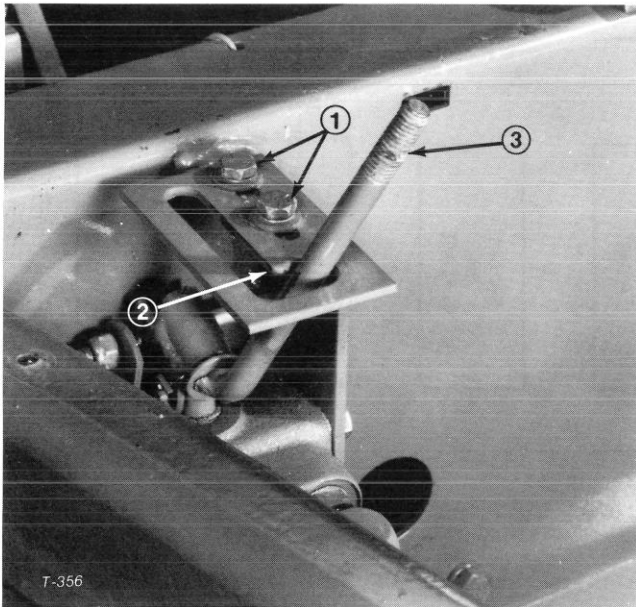

Figure 77
3. Loosen two capscrews on top of the lift lever latch (Fig. 77). Place lever on rounded tip of latch (Fig. 77), and slide latch w/lever forward until stopping resistance is felt. Then tighten capscrews to lock the latch in place. Check for free operation of the lift lever by moving lever from RAISE or TRANSPORT to FLOAT position. Lift lever should just clear rounded position of latch as lever is moved into FLOAT position.